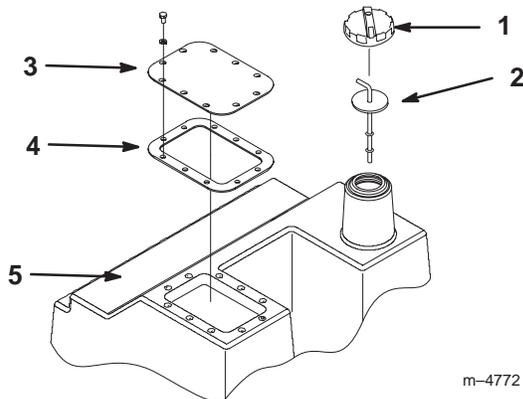

Figure 39
6. Remove the Hydraulic tank cap and dipstick (Fig. 39).
7. Remove the top cover of the hydraulic tank and discard the gasket under the cover (Fig. 39).